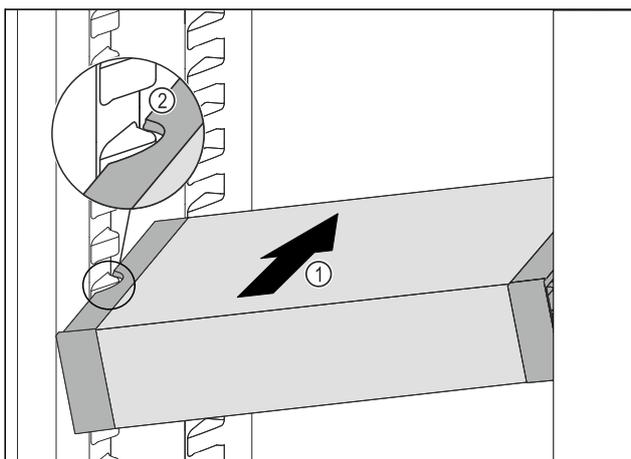

Fig. 122
- ▶ Insert the VarioSafe into the refrigerator compartment at an angle *Fig. 122 (1)* until the recesses in the side *Fig. 122 (2)* of the VarioSafe are at the level of the support rib in the refrigerator compartment.